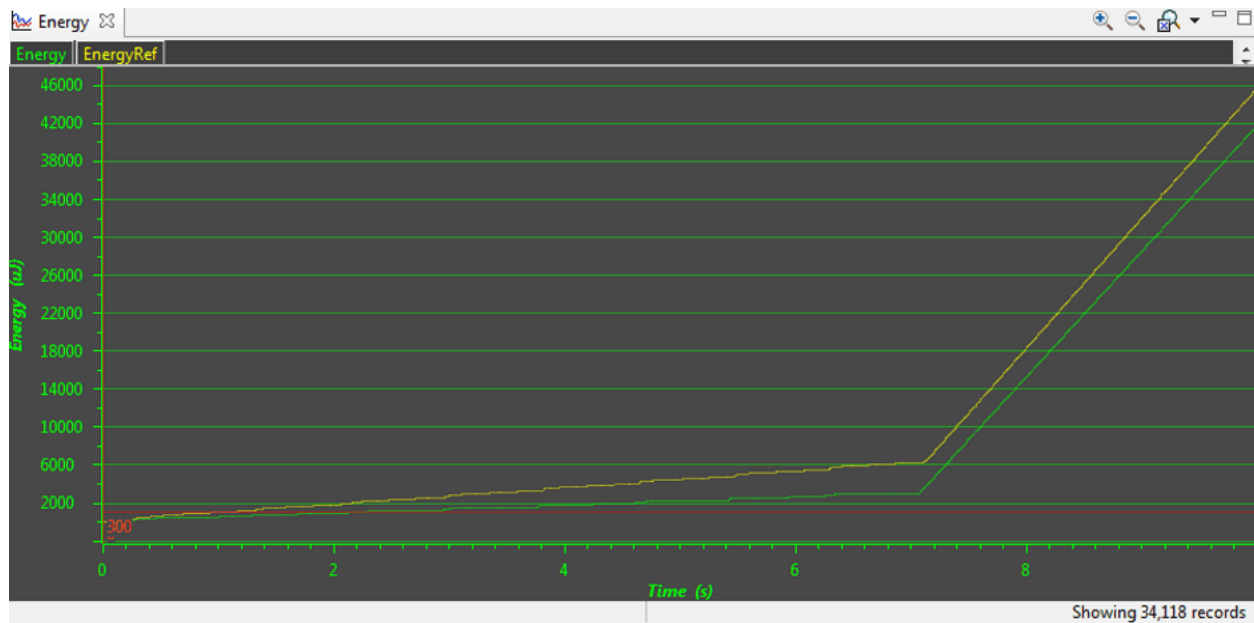

Figure 3-20. Energy Profile of the Same Program in Resume (Yellow Line) and Free Run (Green Line)
**NOTE:** During program execution through the debugger's view **Resume** button, the target microcontroller is constantly accessed by the JTAG or Spy-Bi-Wire protocol to detect when a breakpoint has been hit. Inevitably, these debug accesses consume energy in the target domain and change the result shown in both Energy and Power graphs. To see the absolute power consumption of an application, TI recommends using the **Free Run** mode. In **Free Run** mode, the debug logic of the target microcontroller is not accessed. See Figure 3-20 for an example of the effect of energy consumption coming from debug accesses. The yellow profile was recorded in **Resume** mode, and the green profile was recorded in **Free Run** mode.